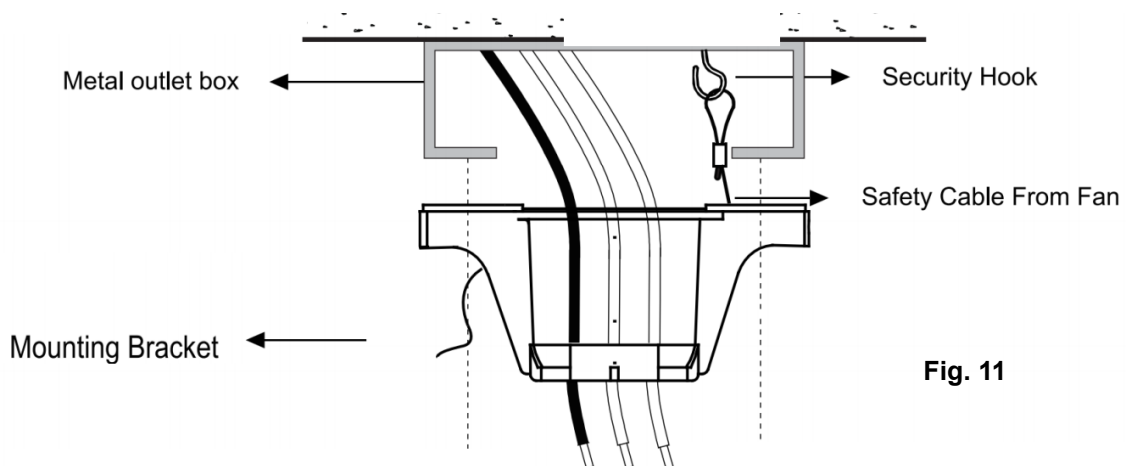

Fig. 11
10. Pull the metal safety cable on the security hook, tight the safety cable. (**Fig. 11**)